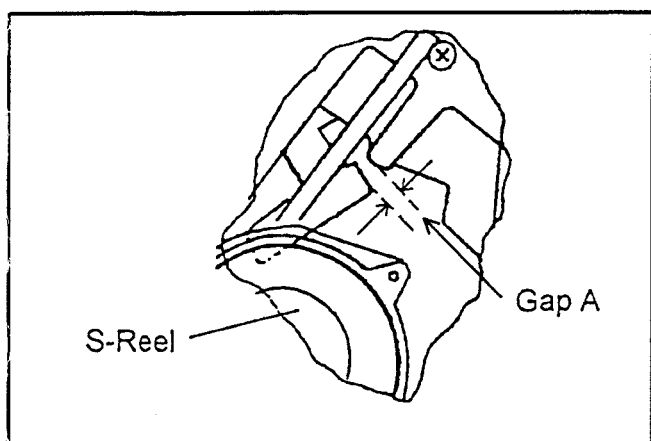

Fig. 6-20-2 M-Stopper Solenoid Adjustment
3. Observe the clearance (A) between Mech Chassis and M-Stopper as shown in Figure 6-20-2. And make sure that it is within 1.1 to 1.3mm.
4. If not, loosen the 2 screws (A), which fixed M-Stopper Solenoid. And adjust the position of M-Stopper Solenoid so that the clearance (A) is within specification. And tighten the 2 screws (A).